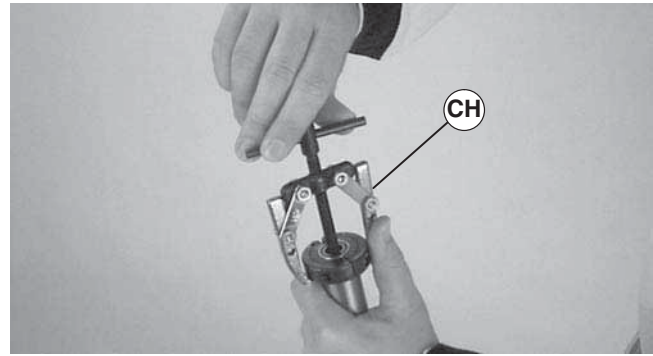

Figure 43
3. Using a puller (Figure 43, item CH), remove and discard bearing(s).